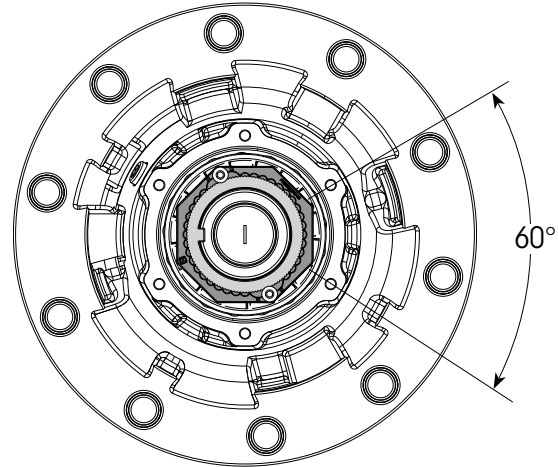

Figure 12: Back off nut 1/6 turn
8. Back-off nut 1/6 turn (Figure 12, one hubcap screw hole).